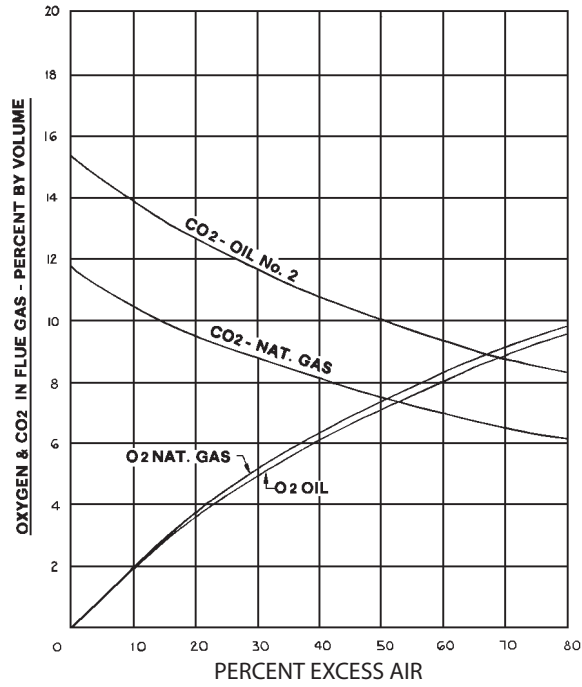

Figure 15. Relation between Oxygen, CO₂ and excess air in flue gases for Natural Gas and Fuel Oil.
5.4.1 Percent CO₂ Shows Volume of Excess Air (Refer to Figure 15)
5.5.1 Percent O₂ Shows Volume of Excess Combustion Air (Refer to Fig. 15)
Proper O₂ content for any fuel fired is the lowest O₂ value that will ensure complete, clean combustion with adequate safety margin for variations in fuel, draft, atmospheric conditions, and mechanical wear. Consult manufacturer of heating equipment or local authorities for specific recommendations. Figure 15 illustrates the relationship between CO₂, excess air and oxygen for gas and oil.